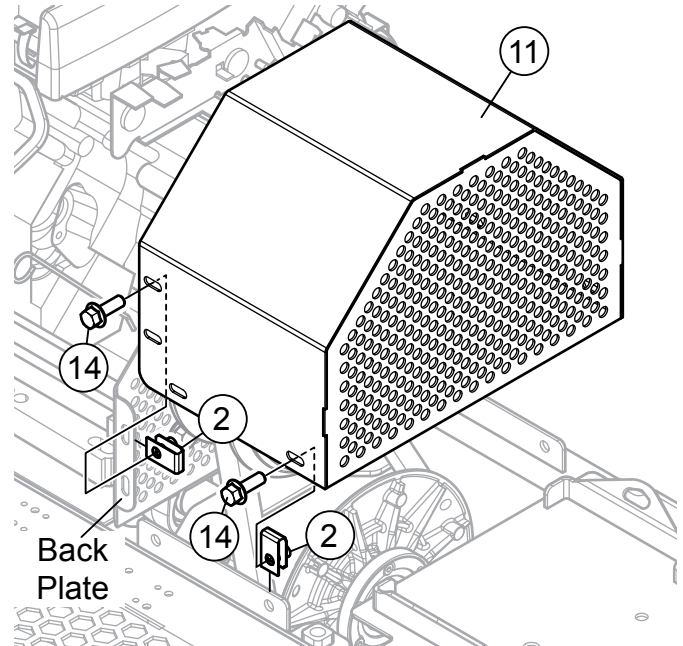

Figure 17. Install New Belt Guard
7. Install the new belt guard, item 11, onto belt guard back plate and trowel frame using new screws (item 14) and U-nuts (item 2) in eight places. See Figure 17.